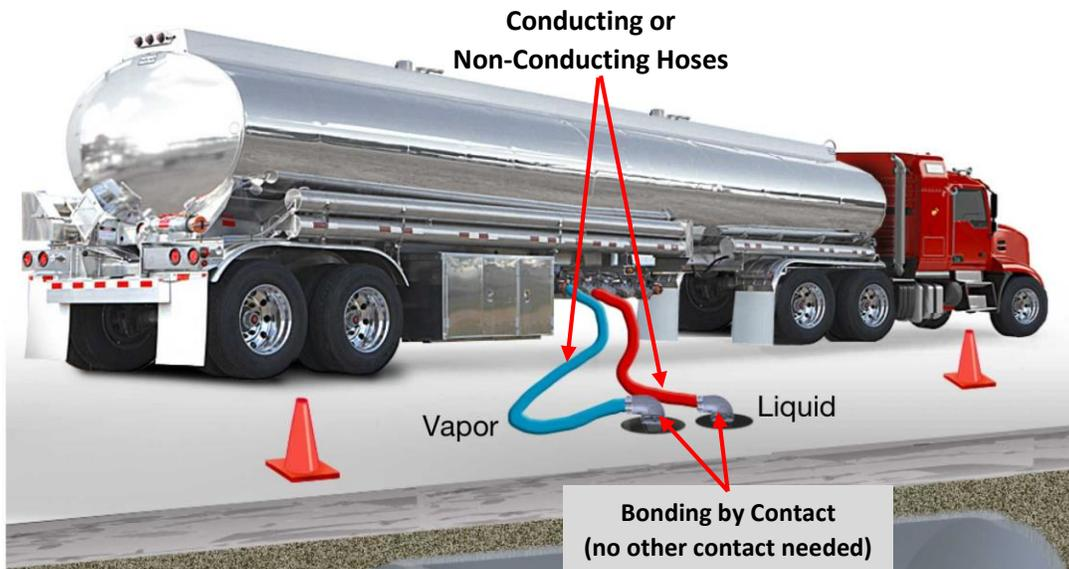

Figure 2.5: Bonding for Emptying a Tank Truck
- 2-49 No external bonding wire is needed for unloading flammable liquids into an underground tank, as shown in Figure 2.5. Any charge in the liquid is removed as it flows through the metal nozzle, because the nozzle is grounded by its contact with the metal opening in the tank.